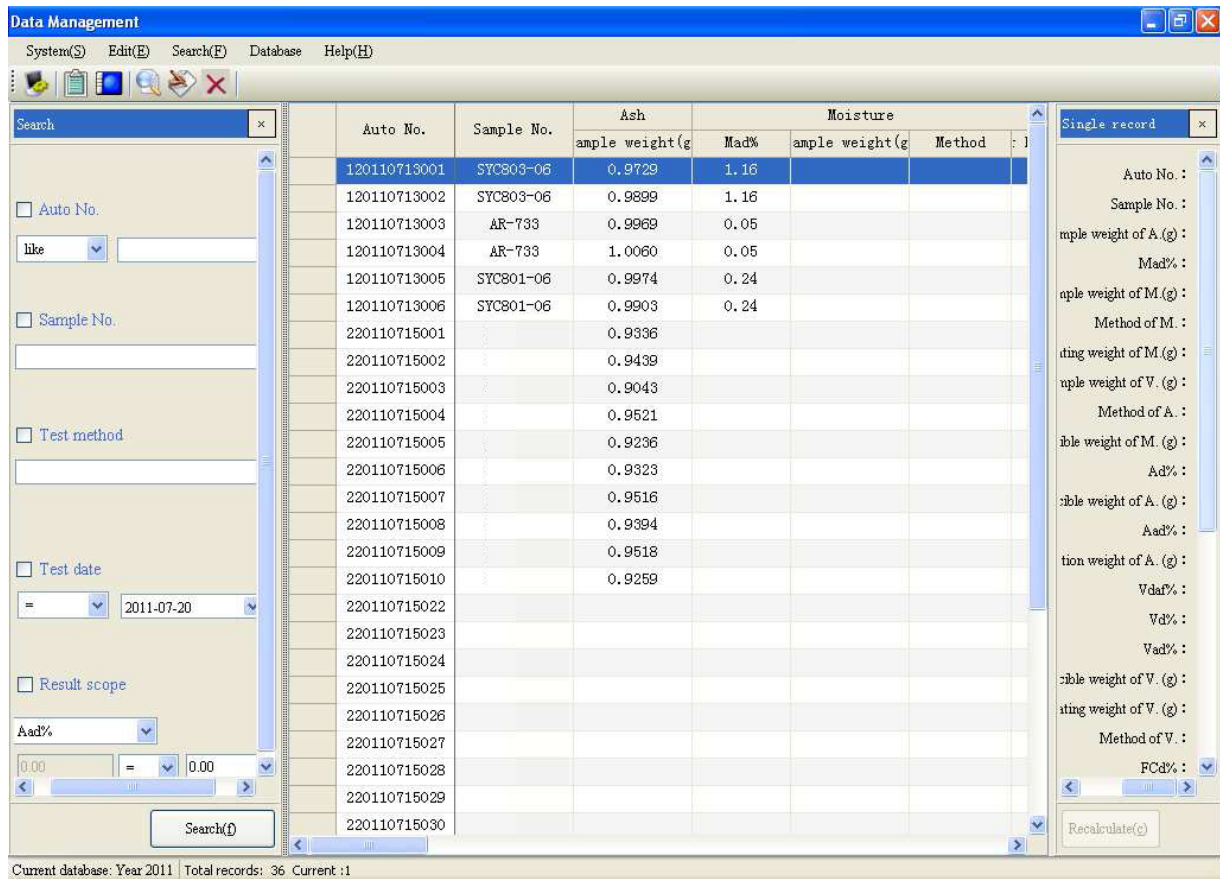

Fig.5-1
In the main interface of measurement and control software, click the “Data management” menu or the shortcut bar “Data management” button to enter into the main window as shown in Fig.5-1. It mainly consists of title bar, menu bar, shortcut button bar, data field and status bar, etc.
5. User-defined: Click this item in the menu and the Search Window as shown in Fig.5-1 will be displayed.